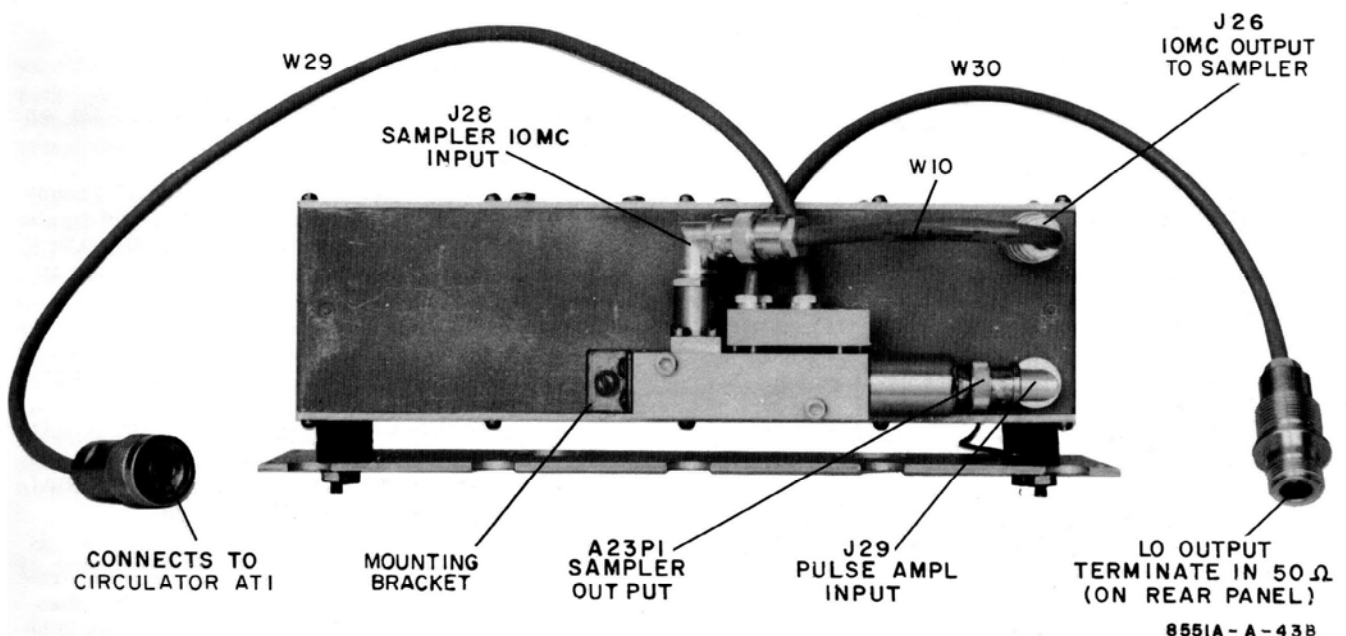

Figure 5-17. Lock Assembly A15 and Sampler Assembly A23, Model 8551B
w. Using BNC tee, connect counter to J26, 10-Mc output (Figure 5-17). Insert a 1 k resistor at the tee in series with the cable to the counter to reduce loading effects of the cable.
aa. Remove mounting screws securing Sampler Assembly A23 to Lock Assembly A15 and disconnect the two assemblies at A23P1/J29 (Figure 5-17). Connect dc voltmeter to A23P1 output of sampler assembly (first ground voltmeter probe to remove any possibility of static charge on the lead) and adjust A15A1T1 10MC AMPL OUTPUT TUNING for a maximum voltmeter reading.